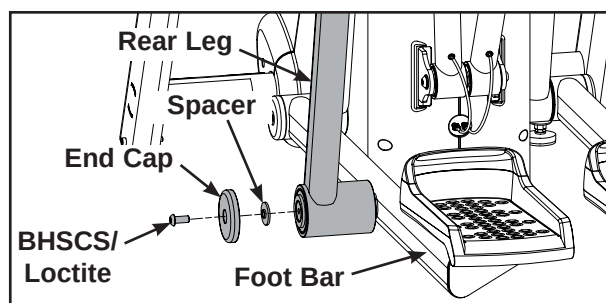

Figure 2
- A. Using a 7/32" Allen wrench, remove the Button Head Socket Cap Screw (BHSCS), plastic end cap and spacer securing the rear leg to the foot bar. See Figure 2.